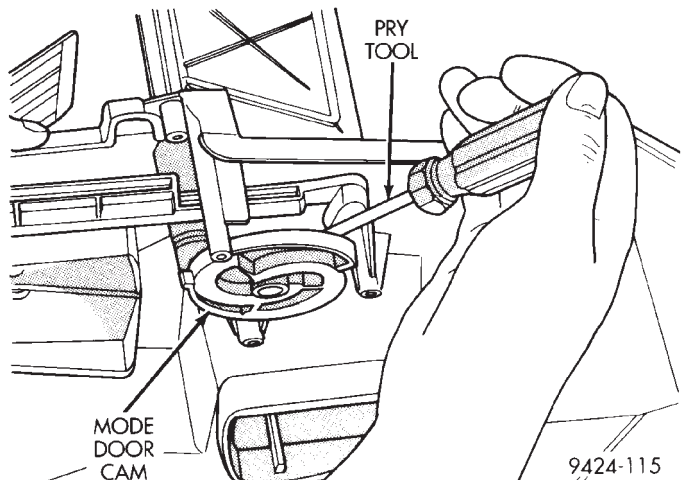
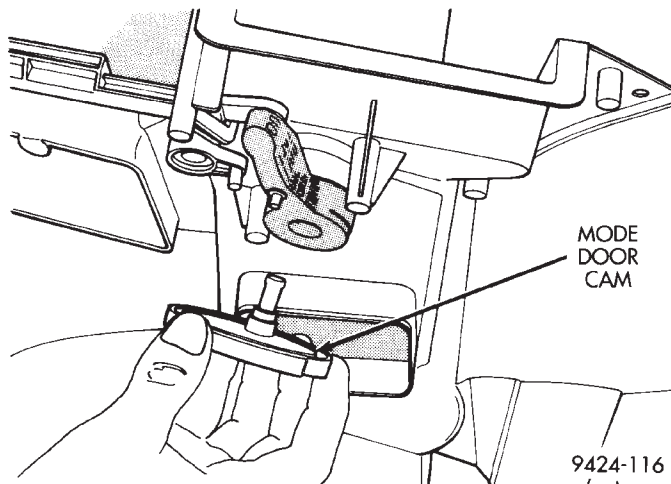

**Fig. 77 Mode Door Actuating Cam Removal Using Pry Tool**
**Fig. 78 Cam Removal**
(22) Remove mode door actuating cam (Fig. 77) and (Fig. 78).